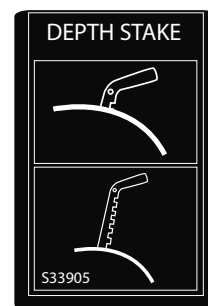

Figure 13
3. Move the Depth Regulator Lever all the way down to the "travel" position, so that the tines clear the ground. To change the depth setting, pull back on the Depth Regulator Lever (A) and lift up or down (B), then release the lever to secure it in the desired position. See Figure 13 and 14.